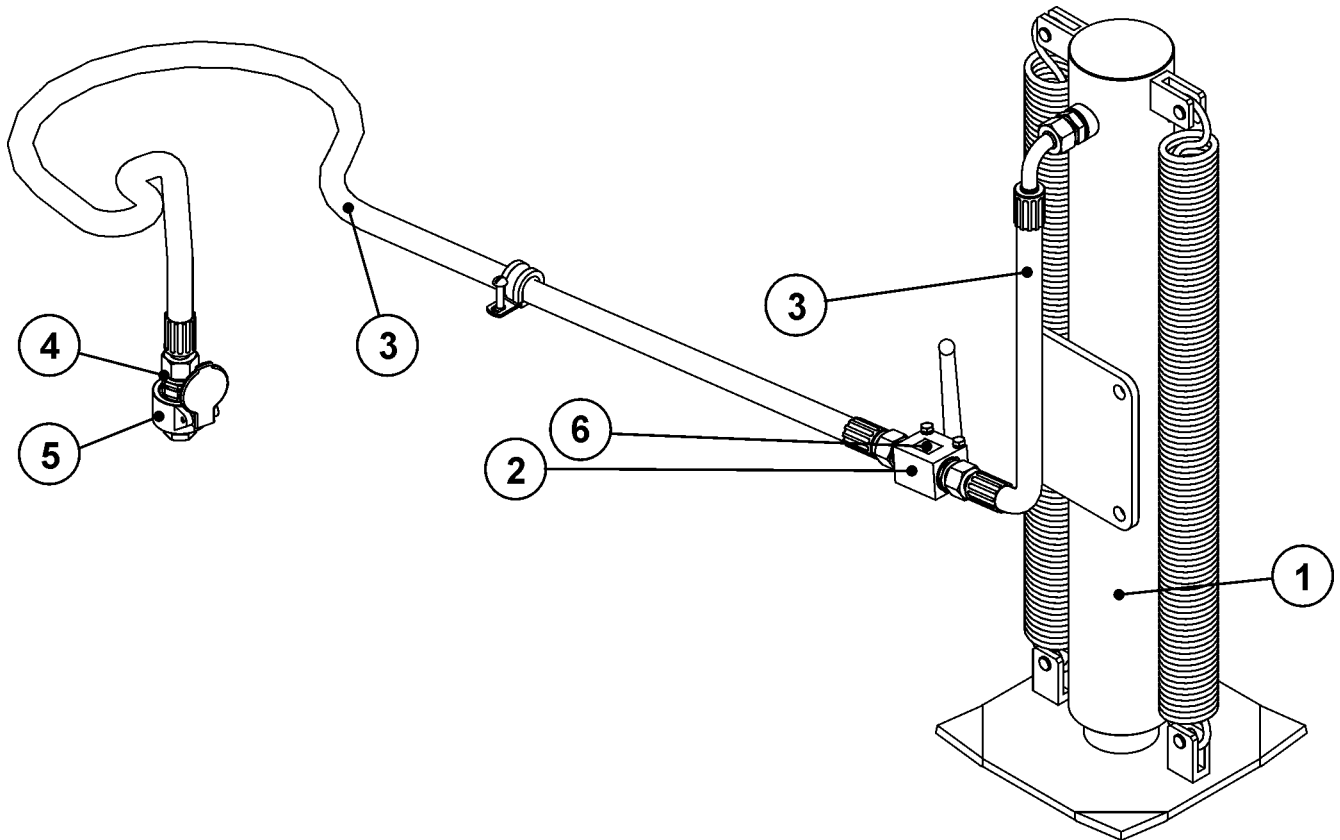

FIG. 20. HYDRAULIC SUPPORT
- Precise adjustment of the draught bar can be achieved with help of the hydraulic support (Fig. 20). For this purpose draw back the tractor and connect the hydraulic support conduit to the tractor; then open the support securing valve and position the draught bar eye